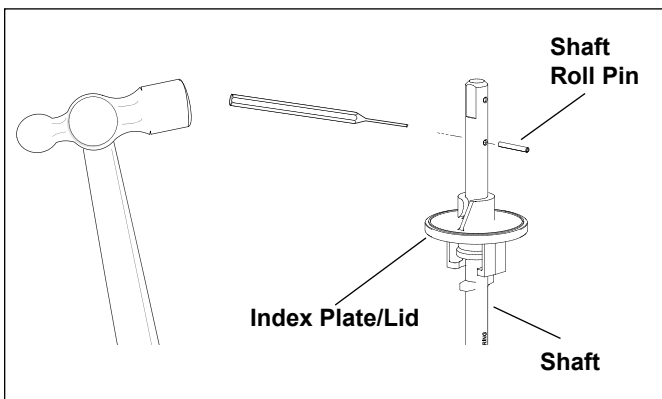

Figure 4. Remove Shaft Roll Pin - Top Half of Slide Valve Shaft Shown
- Using a punch and ball peen hammer, tap the existing roll pin out of the slide valve shaft (see Figure 4).